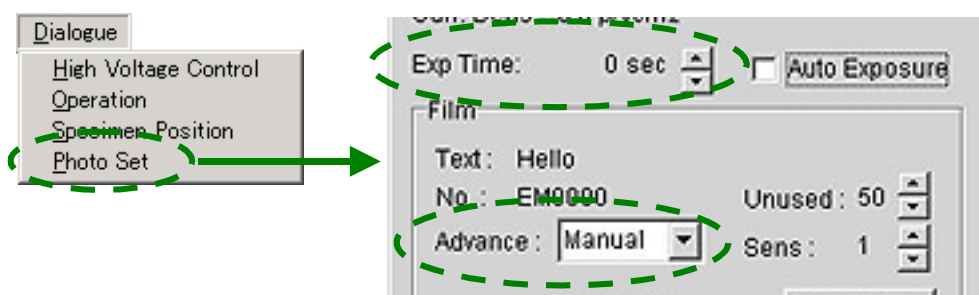

Fig. 5.46 Film Camera Property window(Manual exposure mode)
1. Turn off the AUTO switch (R1-⑧) or remove the check mark from the Auto Exposure box of the **Film Camera Property** window to enter the manual exposure mode (Fig. 5.46).
2. Choose the desired exposure time using the EXP TIME knob (R1-⑧) or the Exp Time arrow buttons (▲ and ▼) in the **Film Camera Property** window.
3. Press the PHOTO switch (R1-⑧) to move the film to the photographing position.
4. Press the PHOTO switch (R1-⑧) again to photograph the image.